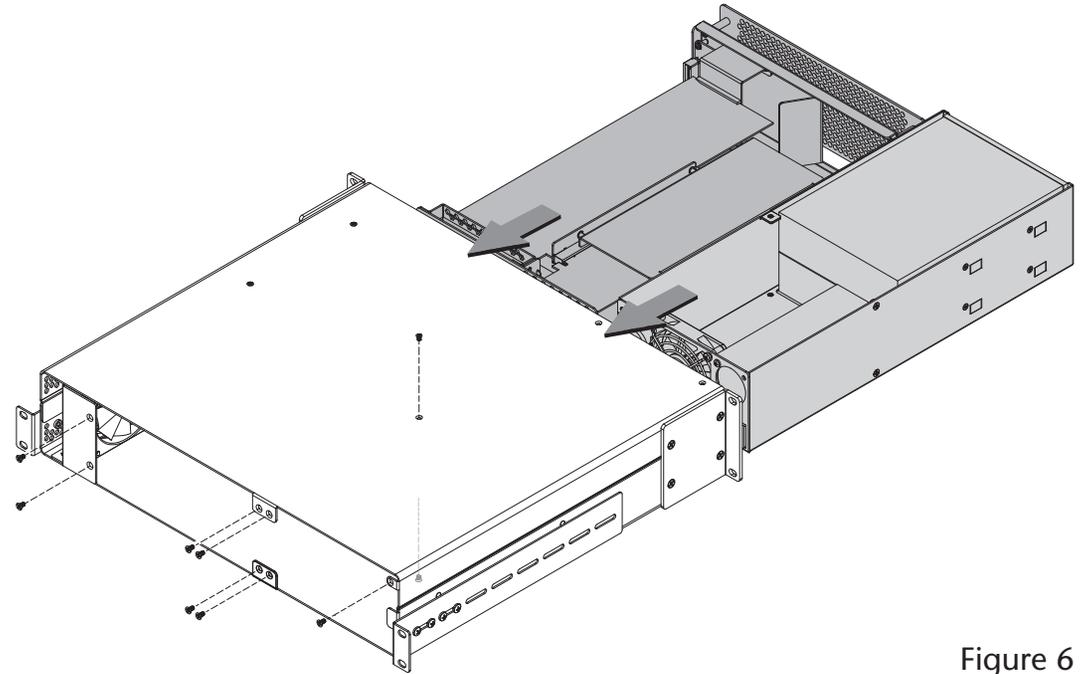

Figure 6
6. Insert the kit into the Echo Express III-R rackmount enclosure, followed by the inner assembly (**Figure 6**). Secure the inner assembly to the enclosure using the four screws you removed previously. Secure the kit to the enclosure using five of the six screws you removed previously, as shown.